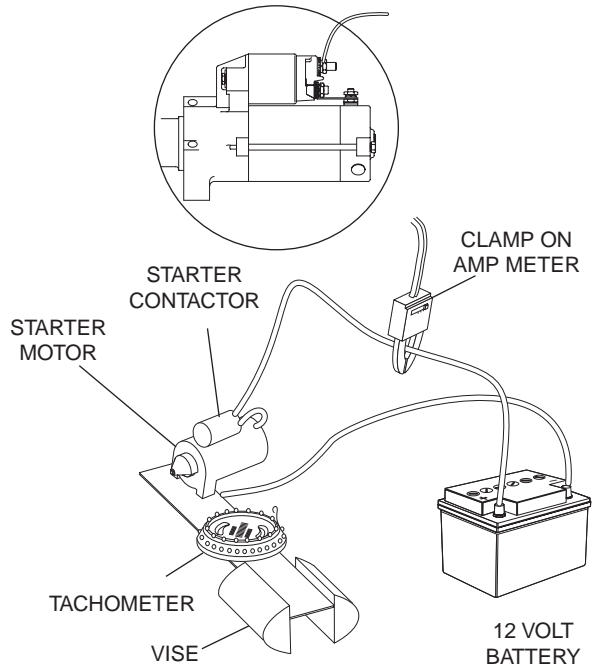

Figure 13. Testing Starter Motor Performance
It is recommended that the starter motor be removed from the engine when testing starter motor performance. Assemble starter to test bracket and clamp test bracket in vise, Figure 13.
2. Connect jumper cables and clamp-on ammeter as shown in Figure 13.